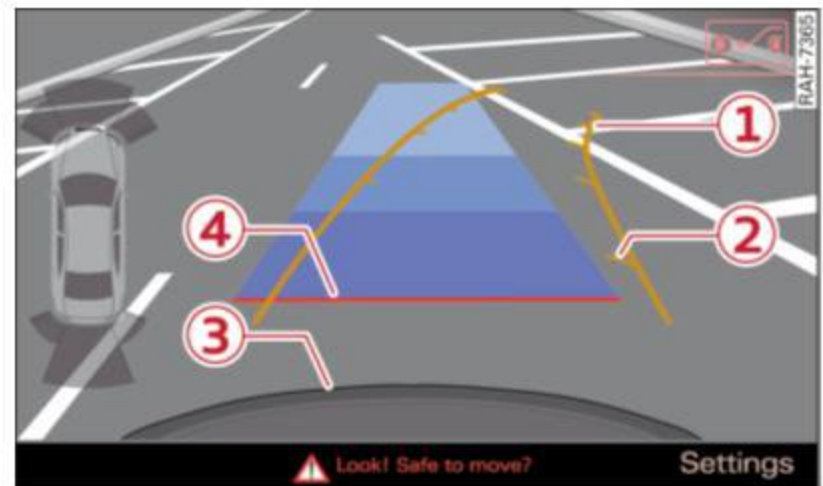

Fig. 132 MMI Display: Aiming at a parking spot
- ▶ Turn the steering wheel until the orange orientation lines ① appear in the parking spot ⇒ fig. 132. Use the markings ② to help you estimate the distance from an obstacle. Each marking corresponds to 3 ft (1 m). The blue area represents an extension of the vehicle's outline by approximately 16 ft (5 m) to the rear.
- ▶ While driving in reverse gear, adjust the steering wheel angle to fit the parking space with the aid of the orange orientation lines ⇒ . ③ marks the rear bumper. You should stop driving in reverse as soon as and no